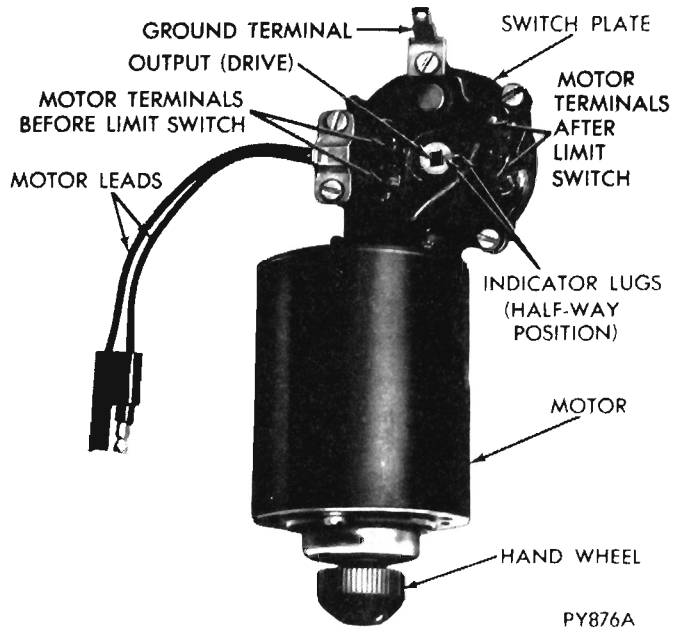

Fig. 2 - Manually Aligning Indicator Lugs
Using jumper wires test motor operation by using the car battery as a direct source of power. Apply power to the motor terminals after limit switch (See Fig. 2) and check motor operation in both directions. If the motor draws current but does not operate in either direction, the motor has an internal short circuit or a locked armature condition and should be replaced. If the motor draws no current, then there is an open circuit and the motor should be replaced. If the motor operates, test the limit switches by applying power to the motor terminals before limit switch (Fig. 2). If motor operates in both directions the limit switches are functional and step 3 should be performed.
(1) Remove torsion bar and motor (see Service Procedures).
(2) Remove the screws from the switch plate. After checking that the indicator lugs are accurately lined up, and while holding the gear in place by pushing the output (drive), as shown in Figure 2, carefully remove the switch plate.